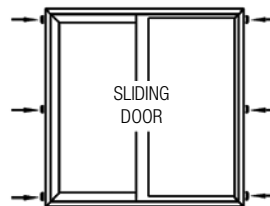

FIG. 14
- J) Shim jambs midway at lock point. See (Fig. 14) for minimum shim placement.